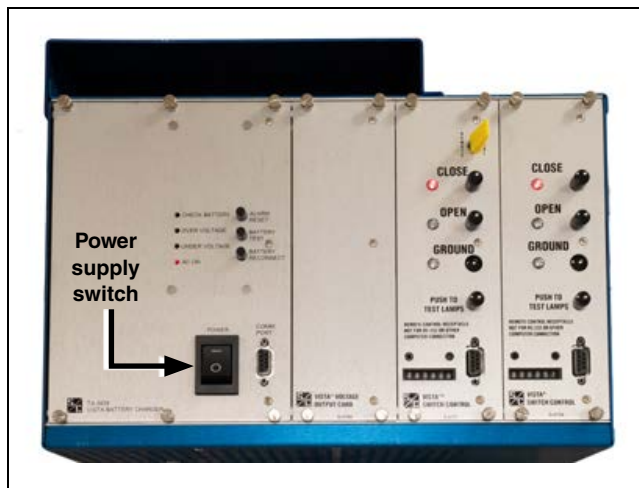

Figure 72. Turning on the power supply.
**STEP 1.** When all preceding steps have been successfully completed, turn on the power supply power switch. See Figure 72. This will connect ac power to the battery charger and to the motor operator controls.